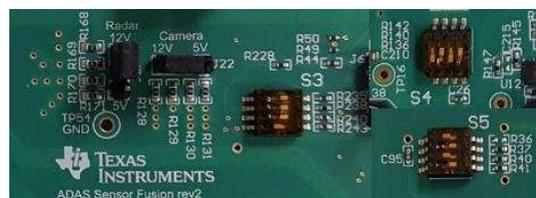

Figure 11. Board Jumper and Switch Settings
1. Select *Coax Mode* and *I2C_SOC override control* (see Figure 11):